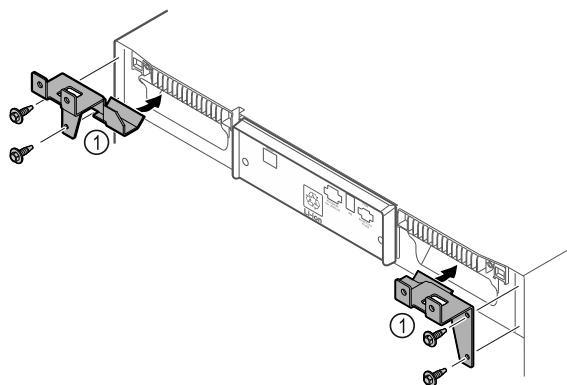

Fig. 52
- Fit the retaining parts Fig. 52 (1) to the device with self-tapping screws.